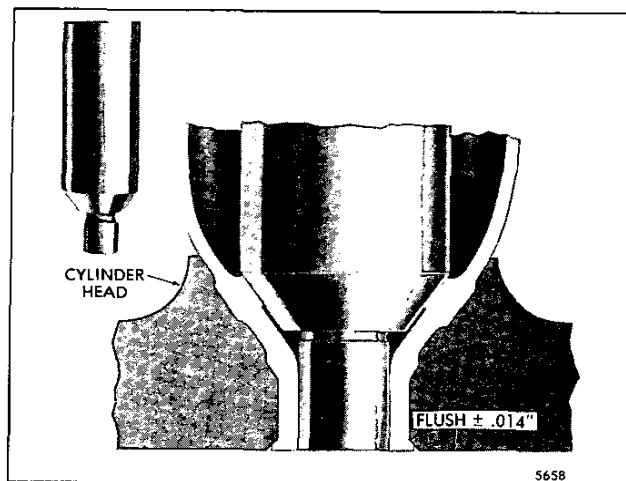

Fig. 8 – Measuring Relationship of Gage to Cylinder Head Fire Deck Using Tool J 25521
Install gage J 25521 in the injector tube. Zero the sled gage dial indicator J 22273 to the fire deck. Gage J 25521 should be flush to $\pm .014$ " with the fire deck of the cylinder head (Fig. 8).
- Remove the chips from the injector tube and, using gage J 25521, continue the reaming operation until the shoulder of the spray tip is flush to $\pm .014$ " with the fire deck of the cylinder head (Fig. 8). Then wash the interior of the injector tube with clean solvent and dry it with compressed air.